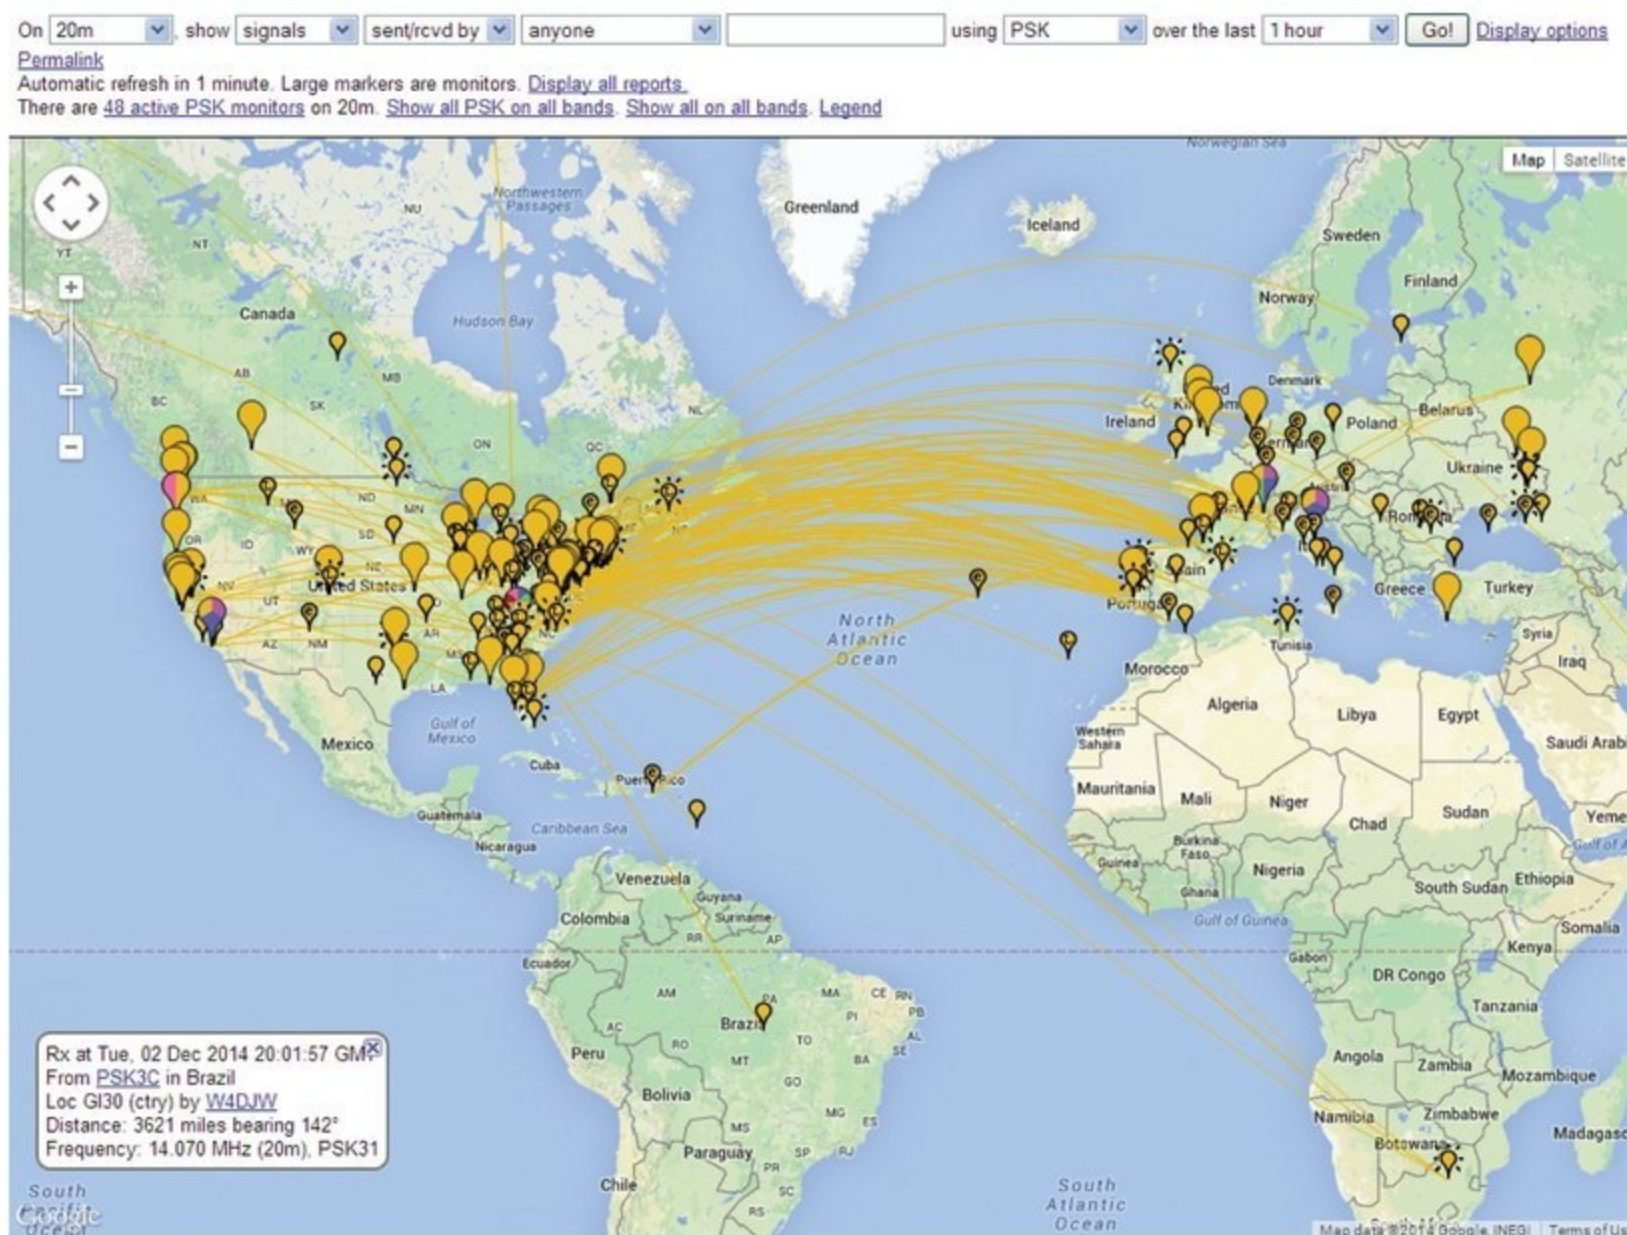

FIGURE 1. PSKreporter world map.
low cost shortwave receiver, your PC, and some specialized software. If you are connected to the Internet, your radio receptions can be reported to websites like **PSKreporter.info**, **WSPRnet.org**, and others where they will be displayed on a world map as in **Figure 1**. In this article, I will show you how to use a low cost (\$62) shortwave radio to get you started in this exciting hobby.
The basic USB configuration is shown in **Figure 1**. The host — usually a PC or laptop — controls all operations and allows multiple slave nodes to connect. The network topology is a star, with one port per slave. If you need more than the one or two ports normally supplied on a PC or laptop, you can add a hub. A hub connects to one of the star nodes and offers multiple bus connections. Most systems can support up to 127 nodes. Communications are half duplex which means two-way, but only one direction at a time. Data is sent in packets with up to 1,024 bytes per packet.
■ **FIGURE 1.** Topology of a USB connection. The host is usually a PC or laptop. The hub serves as an expander.